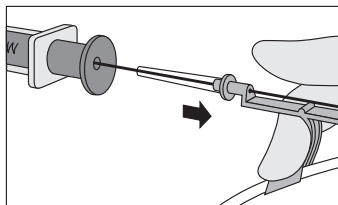

Figure 5
- Raise thumb and pull Arrow Advancer approximately 4 - 8 cm away from Arrow Raulerson Syringe or introducer needle. Lower thumb onto Arrow Advancer and while maintaining a firm grip on SWG, push assembly into syringe barrel to further advance SWG. Continue until SWG reaches desired depth (refer to Figure 5).